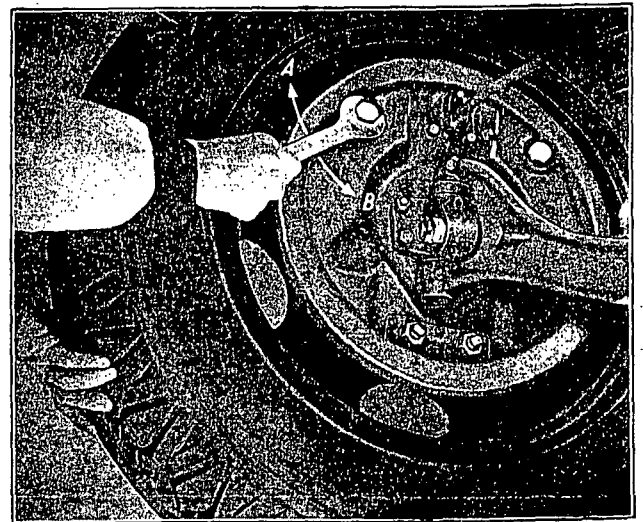

Fig. 72—Turning Brake Shoe Cams
1. Turn the brake shoe cam adjusting nut (Fig. 72) "out" until the front shoe lining is solid against the drum and the wheel is locked, then back off the nut until the wheel may be spun without interference.